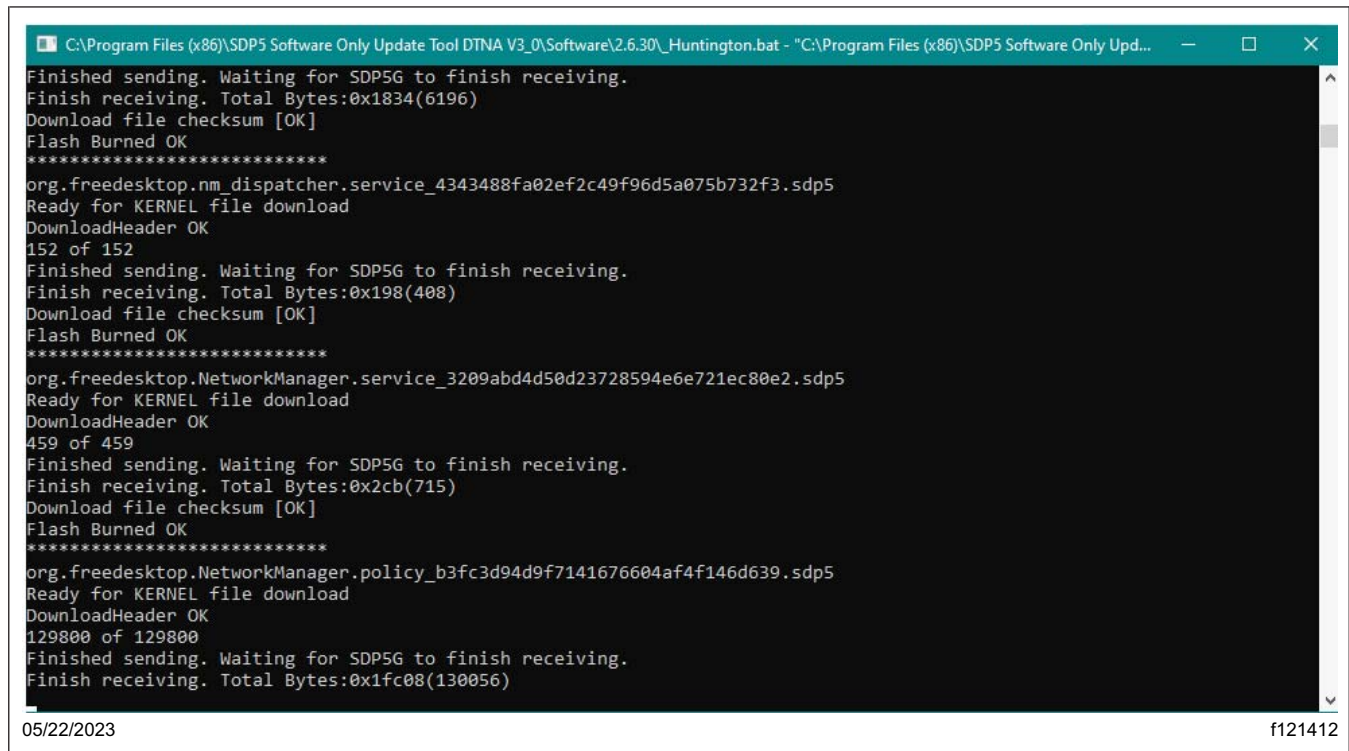

Fig. 24, SDP5 Software Only Update Tool Status Window
12. The SDP5 Software Only Update Tool status window opens to show the progress, and automatically closes when the update is complete. See Fig. 24.